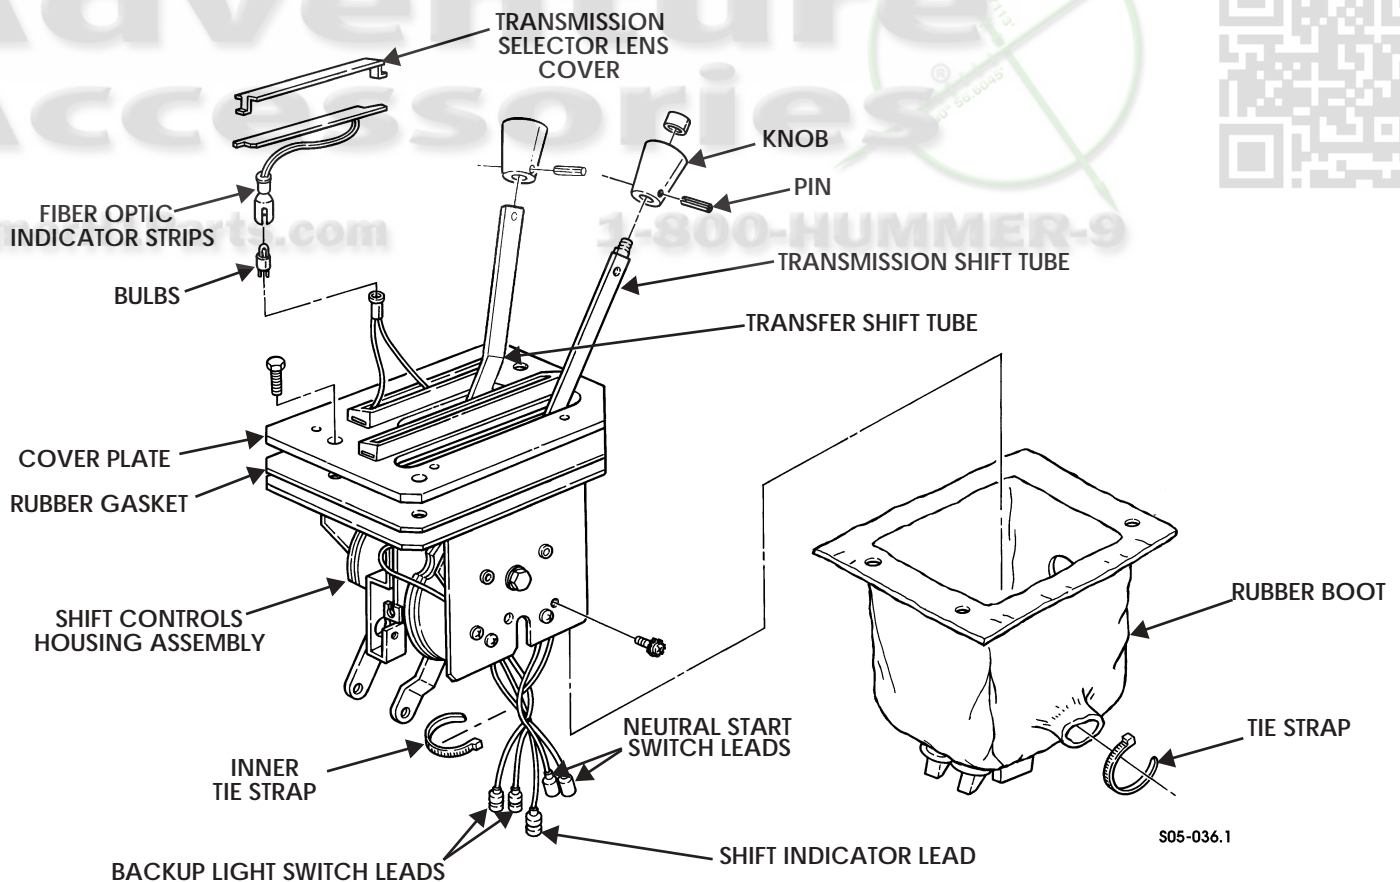

Figure 5-92: Shift Controls Housing Assembly
2. Work boot onto shifter housing assembly passing wire leads through boot. Install external tie strap (Figure 5-92).
1. Install rubber gasket and cover plate on shift controls housing assembly with four screws (Figure 5-92).